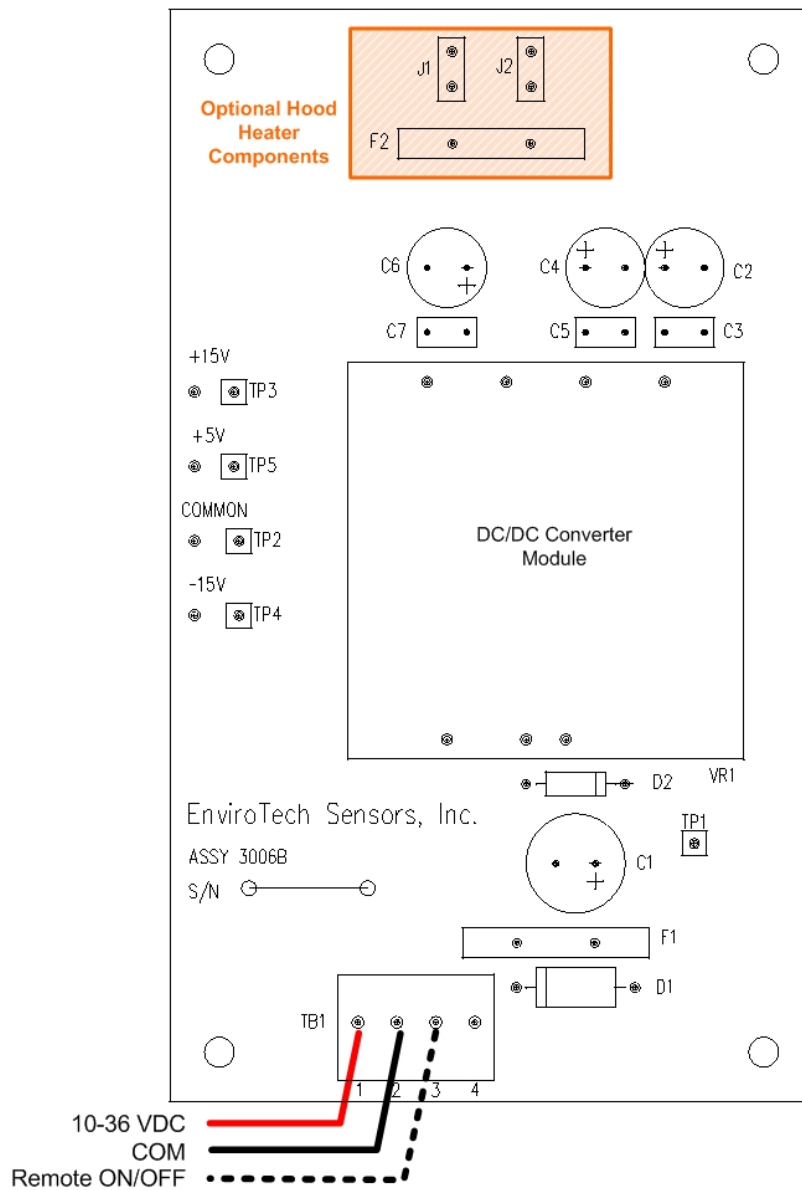

Figure 2.4.2-1 User DC Power Wiring
4. Strip ~6 mm (1/4") of insulation from each of the conductors and connect them to TB1 of the 73021-02 DC Power PCB Assy as shown per Table 2.4.2-1 and in Figure 2.4.2-1.